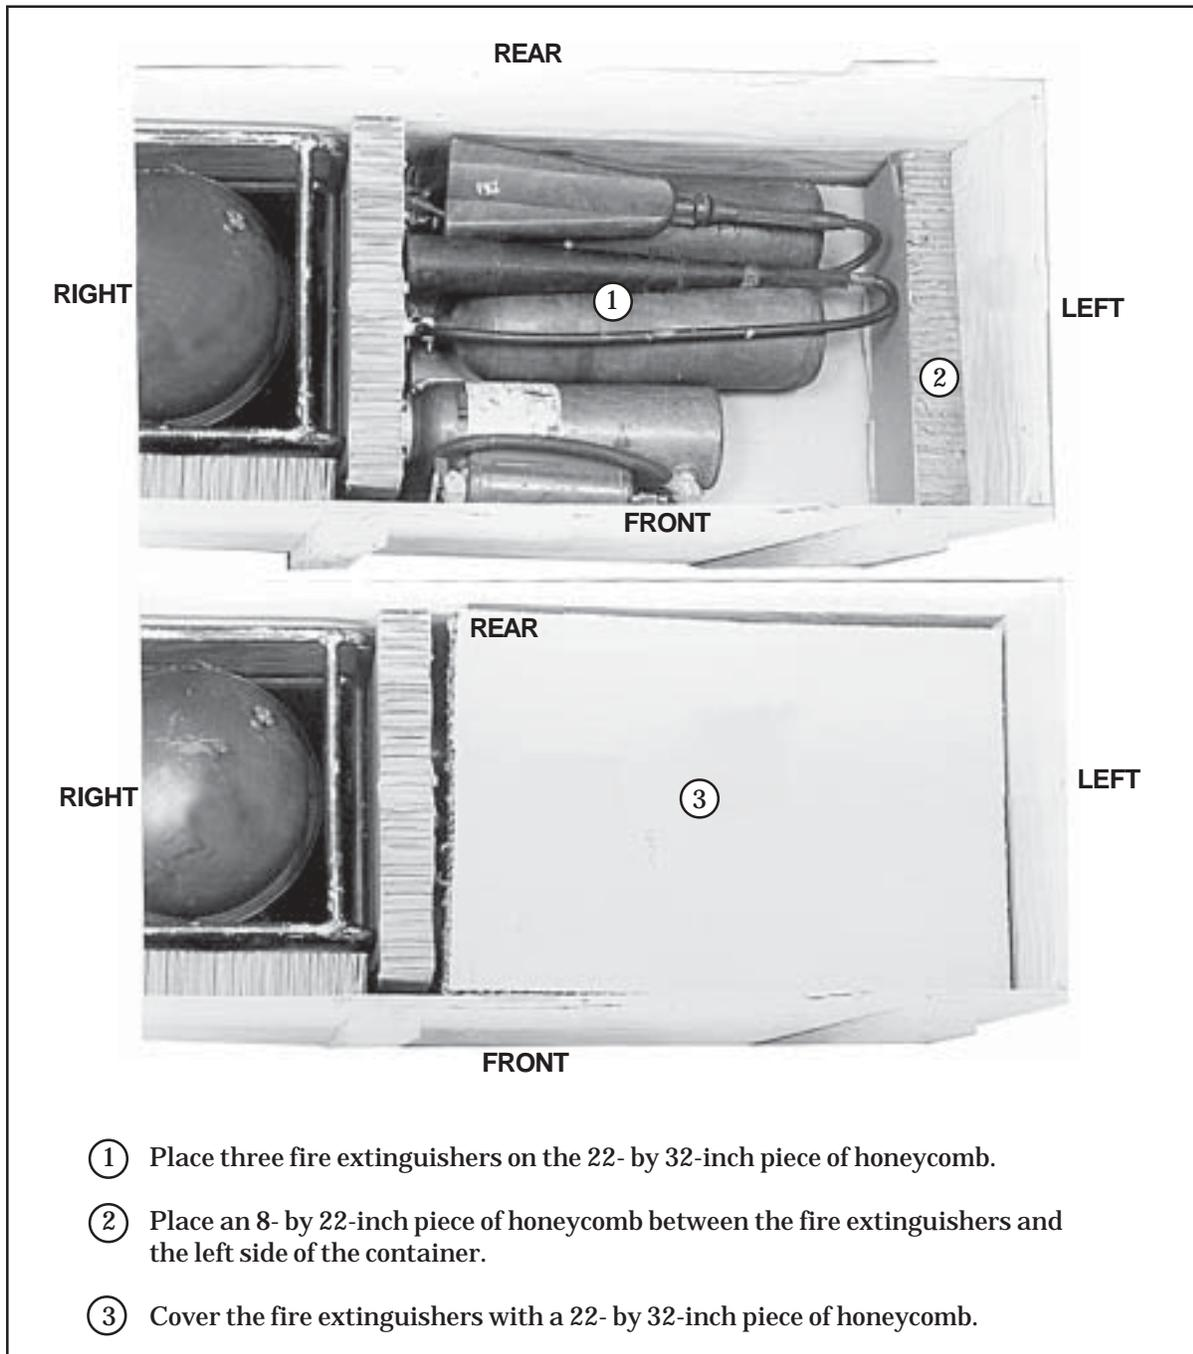

Figure 1-11. Fire Extinguishers Stowed
d. STOWING FIRE EXTINGUISHERS. Stow the fire extinguishers in the container as shown in Figure 1-11.